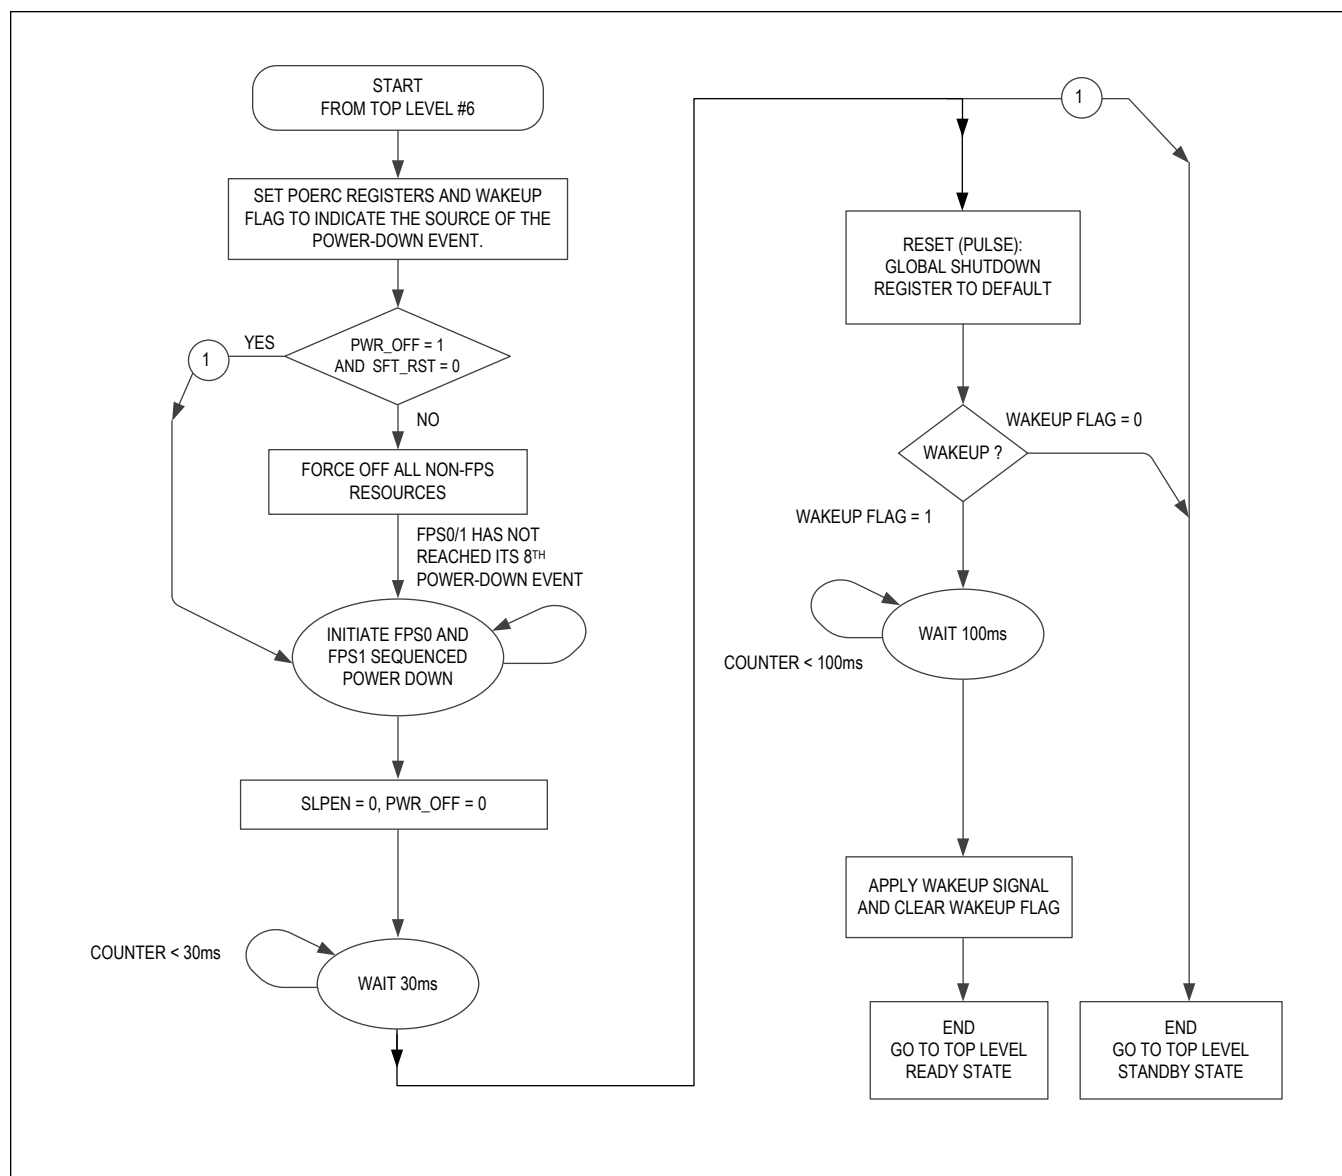

Figure 7. Flow Chart—Power-Down Sequence
- During the power-down sequence (Figure 7), the slots count downwards from 7 to 0.